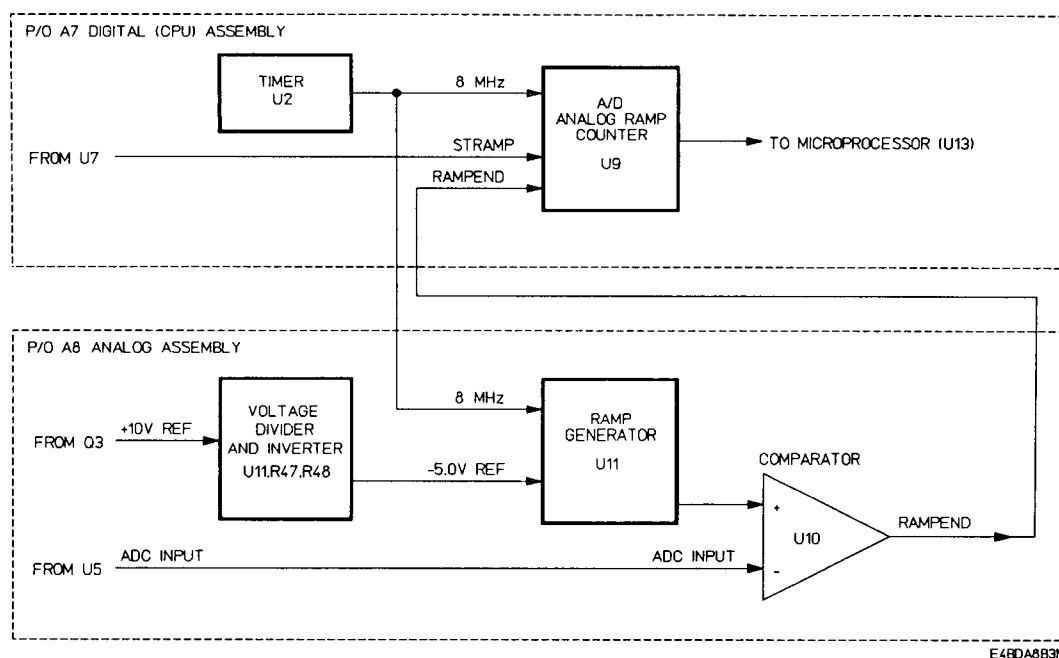

Figure 8-28. Simplified Analog-to-Digital (A/D) Converter Block Diagram
*Figure 8-28* shows the relationship between the CPU and the circuits on the Power Meter Analog board. The method of digitizing the input signal is identical for all input signals. The sequence is as follows: